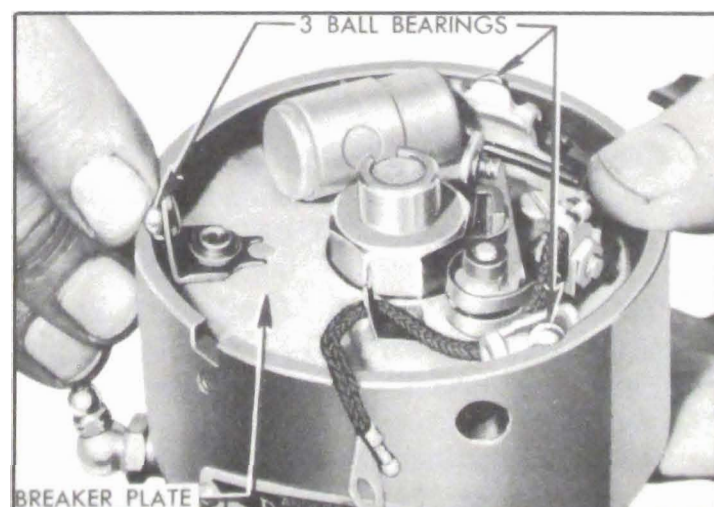

Figure 10-88—Installing Breaker Plate—1948 Model Distributor
3. On 1948 Model distributor place a small amount of petroleum jelly in ball bearing seats in breaker plate, hold breaker plate in position with seats for ball bearings aligned with vertical grooves in housing, and spring type seat adjacent to slot for vacuum control link. Place the three ball bearings in grooves and seats, push breaker plate down as far as it will go and rotate it counterclockwise a short distance. See figure 10-88.